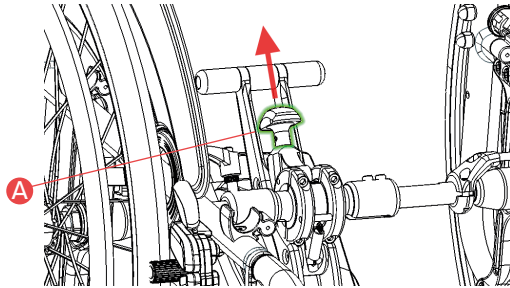

Figure 30
- Place the palm of the hand on the frame's handle and pull the release/engagement lever (A) with the fingers. (Figure 30)